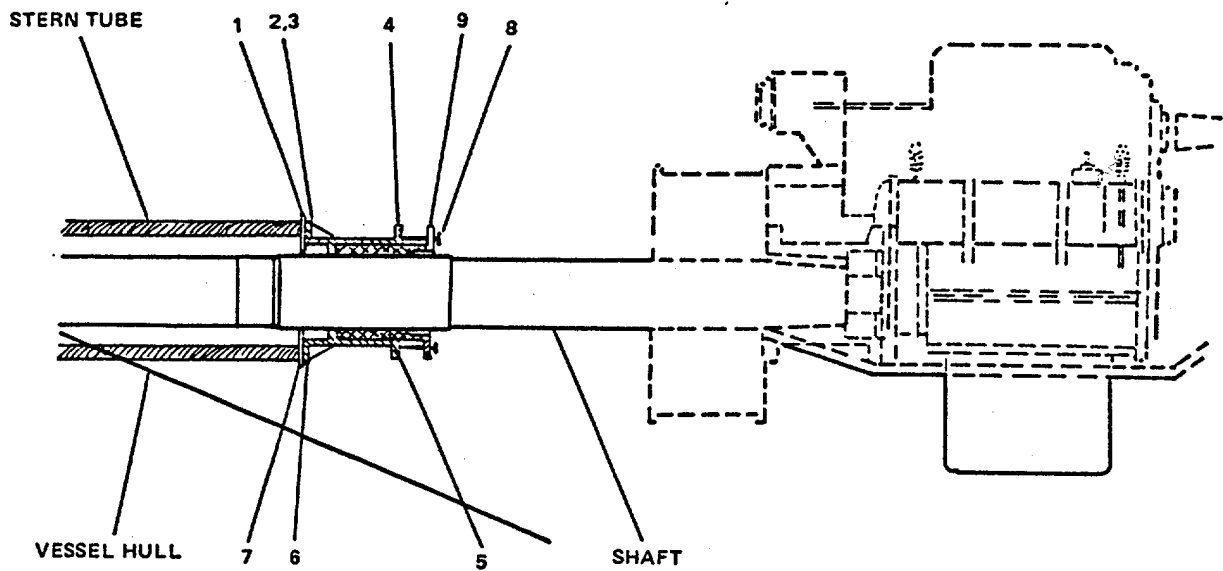

FIGURE 3-188. Repair Propeller Shaft Assembly.
#### **DISASSEMBLY (Figure 3-188)**
- (7) After curing time of 1 hour, flex the bonded gasket joint and examine joint for lack of bond. Do not proceed with replacement if joint shows lack of bond.
- (8) Waterproof the bonded joint with a coating of Loctite waterproofing solution over the bond line. Apply just enough solution to cover the bond line completely and prevent air bubbles from forming in the coating, which will cause the coating to be porous.
- (9) Allow waterproofing solution to cure for 10 minutes. If still tacky, applying a coating of silicone grease in step (10) will ensure satisfactory installation.
- (10) Inspect new gasket (6, Figure 3-188) in groove on plate (7) to ensure it fits groove. Apply coating of silicone grease to new gasket (6).
- (11) Slide stuffing box assembly (4) and stern tube and plate (7) along shaft and against stern tube.
- (12) Install eight split-ring lockwashers (3) and hex head capscrews (2) to secure end plate (7) and stuffing box assembly (4) to stern tube. Tighten hex head capscrews to 350 ft-lb torque.
- (13) Install new lock wire (1) into hexhead capscrews (2) and secure.